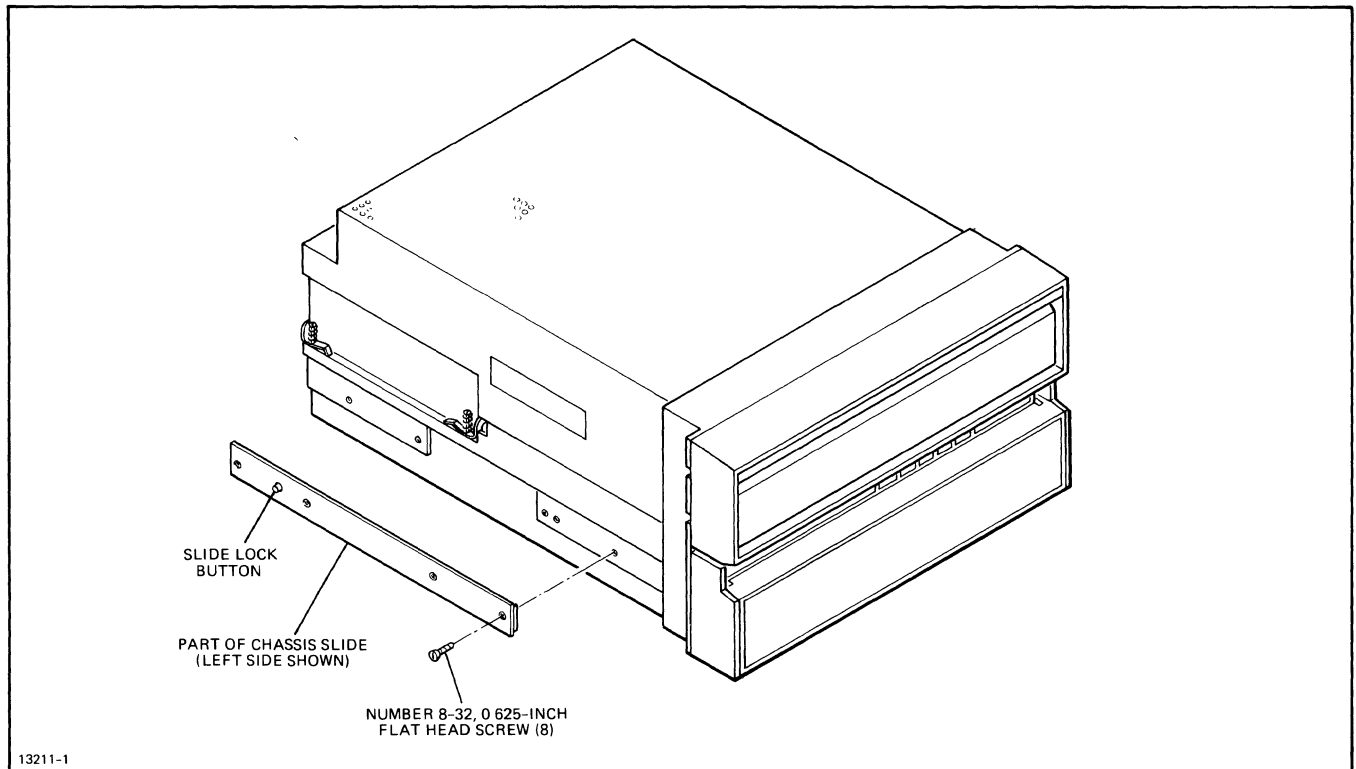

Figure 2-3. Chassis Slide Attachment
a. Place the disc drive on a table in an environmentally clean area. Attach the right and left chassis slides to the disc drive using eight number 8-32, 0.625 flat head screws, four on each side, as shown in figure 2-3.